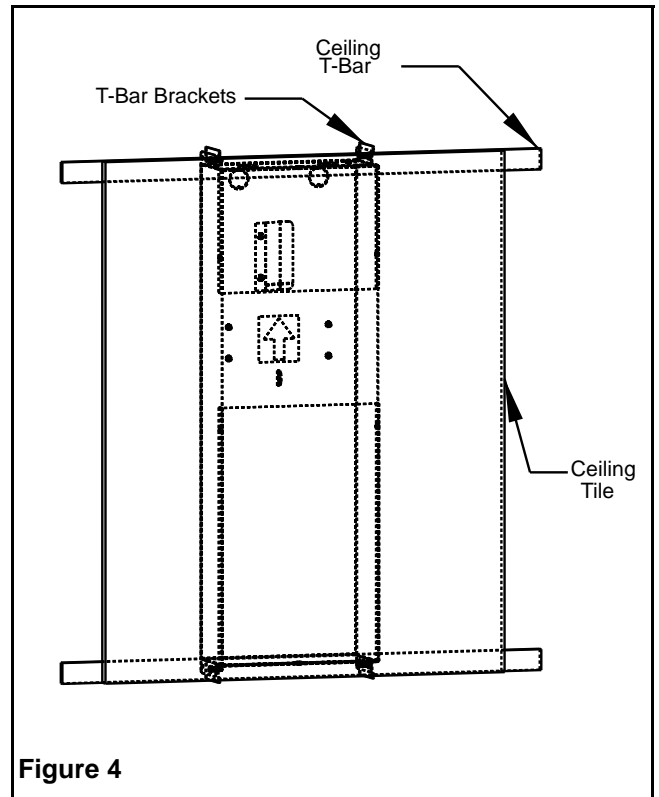

Figure 4
3. Position the back-box at the desired location across the ceiling T-bars (Figure 4). Secure the Back-Box to the ceiling joists by chains, or "pencil rod" wire to support the unit.